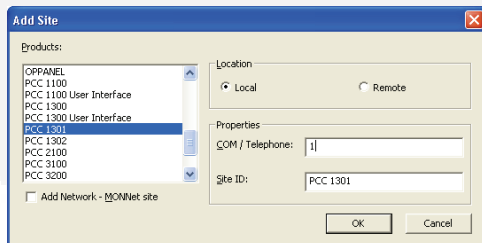

FIGURE 2-32. ADD SITE DIALOG
2. In the Add Site dialog (see Figure 2-32), select a **Location** if using a Local or Remote connection.